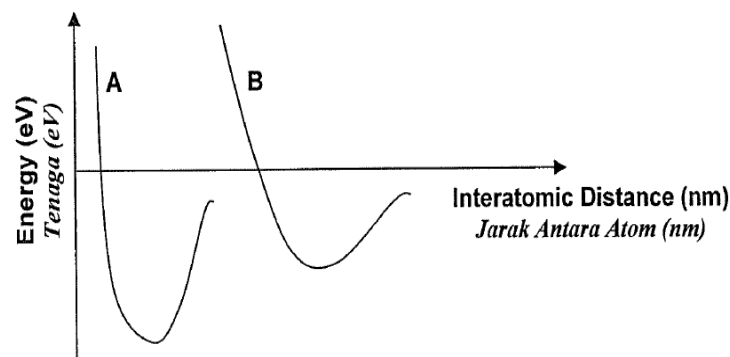

Figure 3: An energy-interatomic distance plot of element A and B.
- (c). An energy-interatomic distance plot of element A and B are shown in Figure 3.